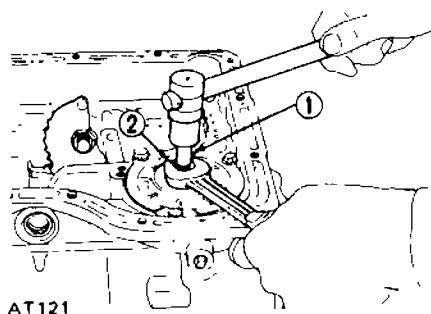

Fig AT-55 Loosening band servo
6. Loosen lock nut (2) on piston rod (1) as shown in Figure AT-55.